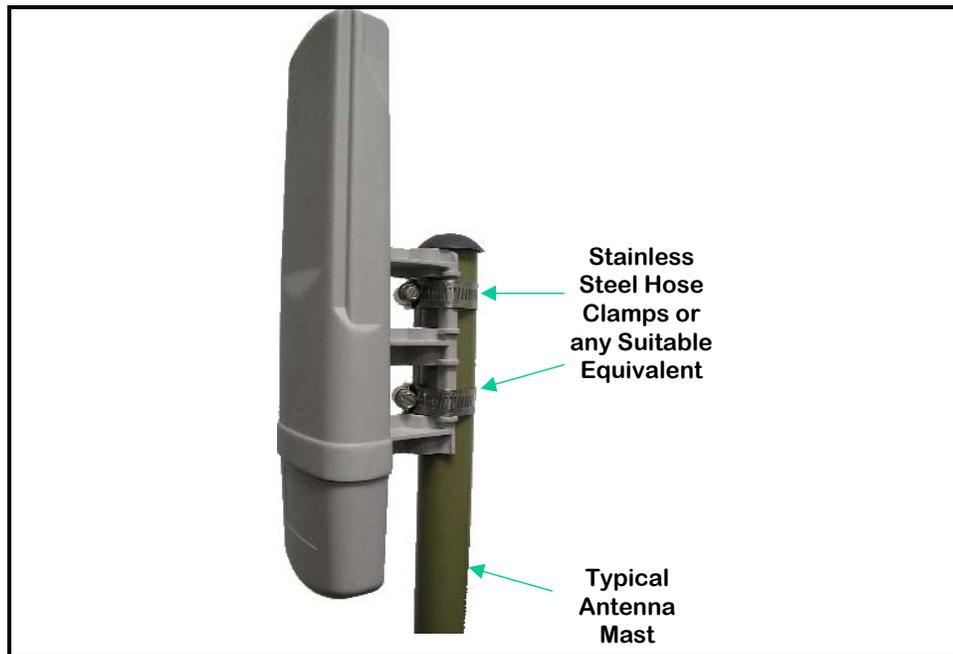

FIGURE 3
1. Mount the unit as described in FIGURE 3
- a. Illustrated in FIGURE 3 is an example of mounting the unit to an antenna mast. Stainless steel hose-clamps, or any suitable equivalent, may be used to secure the unit to the mast.